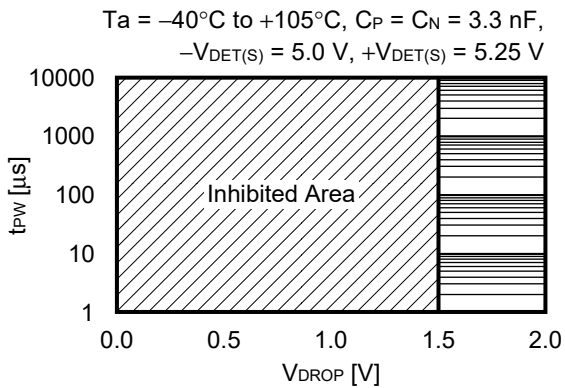
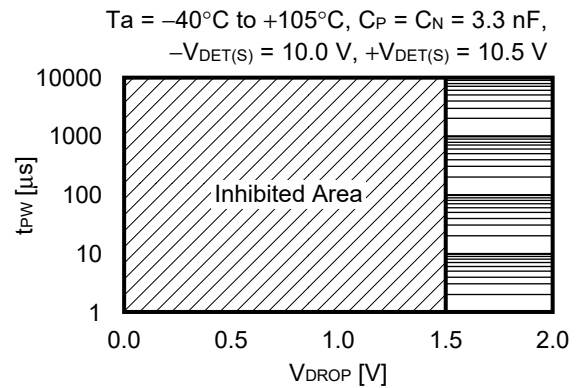

Figure 56
Figure 57
Figure 56 and Figure 57 show the relation between pulse width ( $t_{PW}$ ) and VDD lower limit (VDROP) where a release signal can be output after the normal release delay time has elapsed when the VDD pin (VDD detection product) instantaneously drops to the detection voltage (-VDET) or lower and then increases to the release voltage (+VDET) or higher during release delay time.
1. Figure 56 and Figure 57 show the input voltage conditions when a release signal is output after the normal release delay time has elapsed. When this is within the inhibited area, release may erroneously be executed before the delay time completes.
2. When the VDD pin voltage is within the inhibited areas shown in Figure 56 and Figure 57 during release delay time, input 0 V to the VDD pin then restart the S-19110 Series.